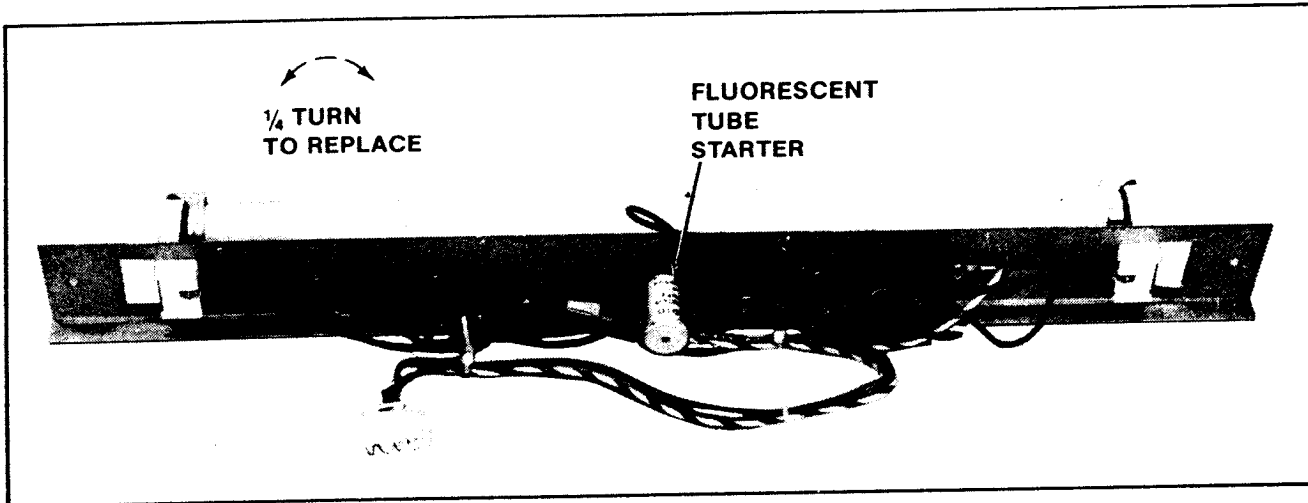

Figure 4-16 Replacing Fluorescent Tube Starter — Upright
- ☐ Replacing the fluorescent tube starter. See Figure 4-16.
- Replacing the fluorescent tube starter. See Figure 4-16.
4. Replacing the black light tube starter. See Figure 4-16.
3. Replacing the fluorescent tube starter. See Figure 4-16.